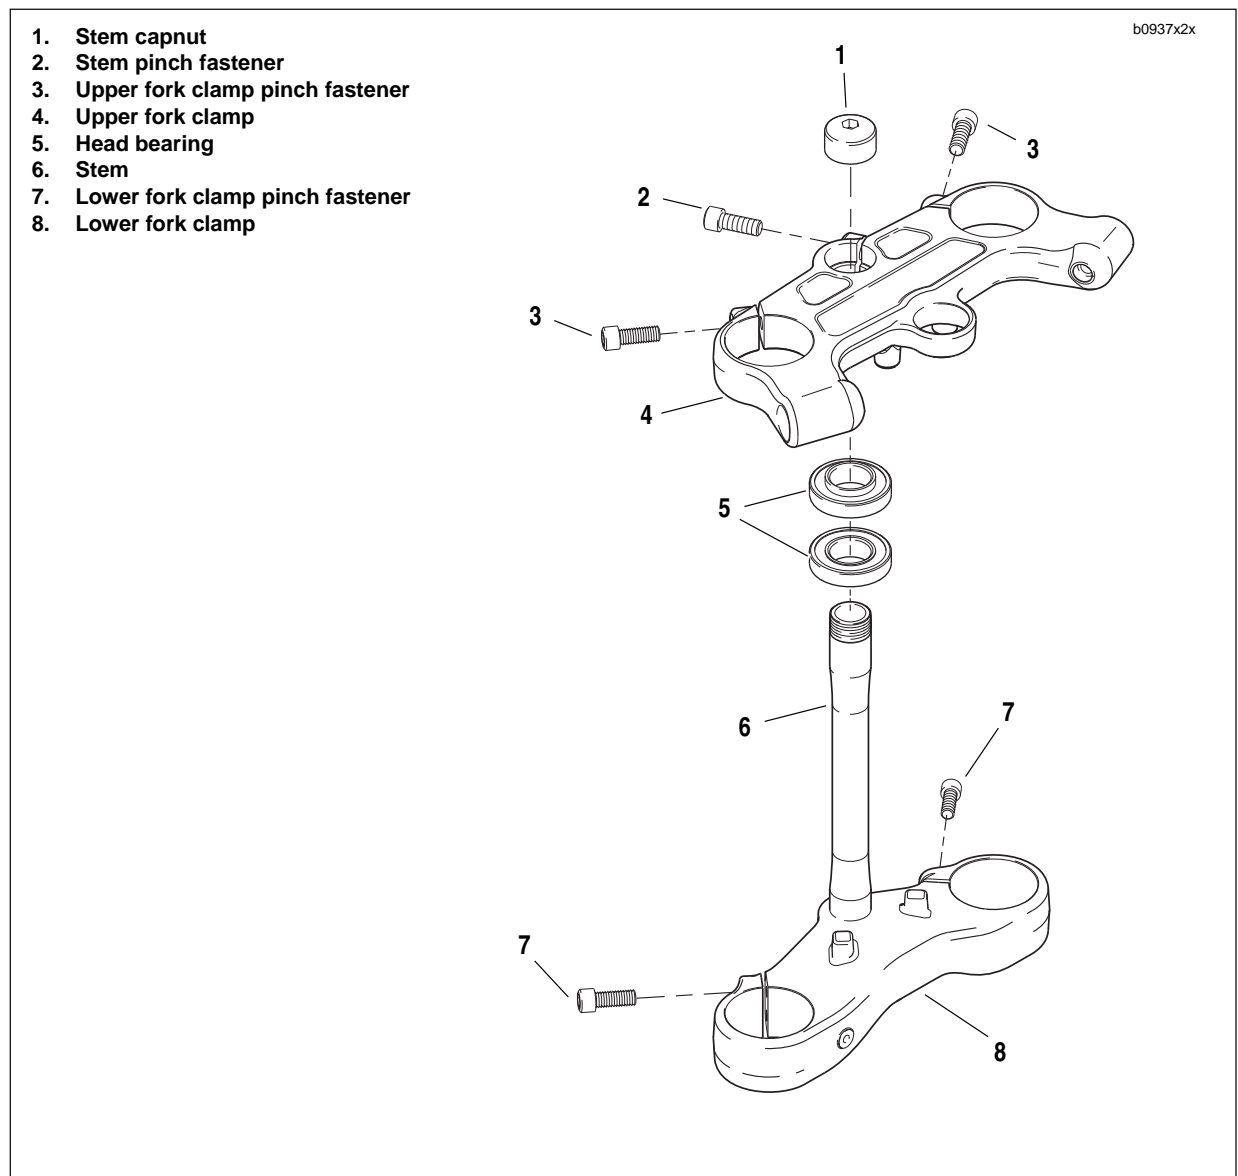

Figure 2-75. Steering Stem Assembly
5. See Figure 2-75. Remove steering stem pinch fastener (2).
8. See Figure 2-75. Hold or brace the lower fork clamp and remove steering stem capnut(1).
9. Remove the upper fork clamp (4).
10. Remove the lower fork clamp (8).
2. See Figure 2-75. Install the lower fork clamp (8) into the steering stem bore and install the upper fork clamp (4).
3. Install steering stem cap (1). Thread on by hand but do not torque.
- a. See Figure 2-75. Loosen steering stem pinch fastener (2) and upper and lower fork clamp pinch fasteners (3, 7).
- b. Brace wheel while removing steering stem capnut fastener (1).
- c. Remove upper fork clamp (4) and front-end assembly which includes front wheel, steering stem/lower fork clamp.
4. Remove upper and lower steering head bearings (5).